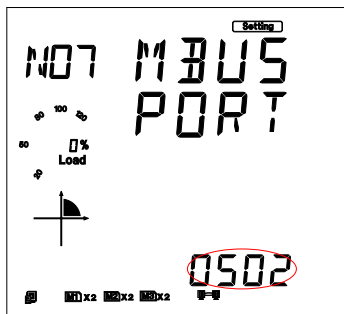

Fig 5-35
9. Set Modbus-TCP port in the seventh setting page, such as 502. Press the "V/A" key to go to the setting page. Users may set the parameters pointed out in Fig 5-35. The cursor starts at the first digit. After setting the Modbus-TCP port, press the "V/A" key to accept. Press the "P" key to go to the eighth setting page for the HTTP port. The Modbus-TCP port's default value is 502, and the user defined range of port is 2000~5999. If the set port is not in the correct range, the set port will return to the default value.